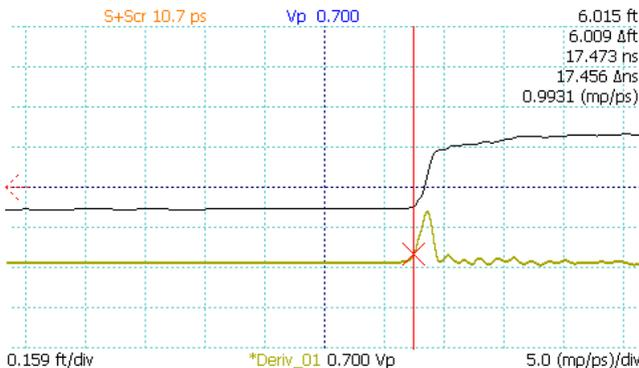

Figure 5.2. First derivative trace (yellow, bottom).
5. A new trace is created that displays the first derivative of the base trace. See Figure 5.2.